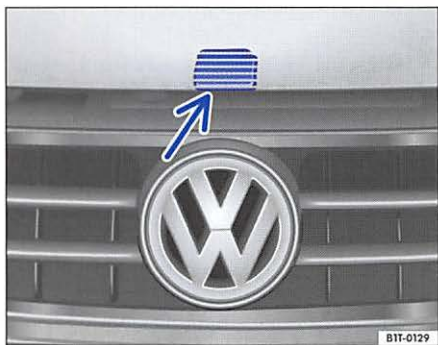

Fig. 4 Detail of the radiator grill: release lever for opening the engine hood
- Lift the engine hood up at the release lever ⇒fig. 4 (arrow) and open the hood until it is held up by the gas-filled strut.